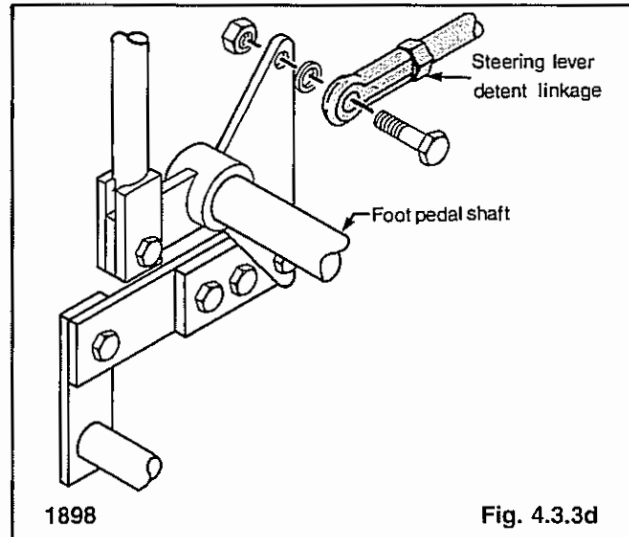

Fig. 4.3.3d
8. Disconnect the steering lever detent linkage at the foot pedal shaft (fig. 4.3.3d).